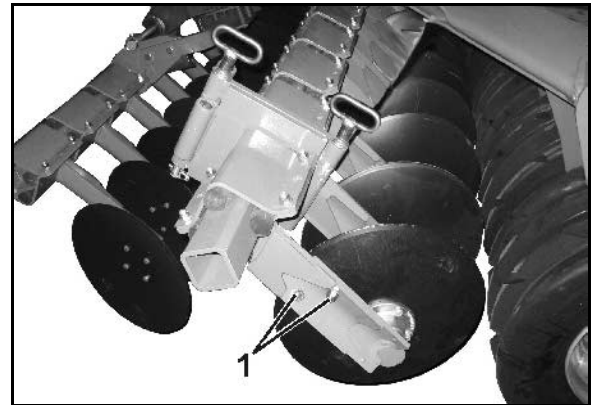

Fig. 32
2. Release screw unions (Fig. 32/1).